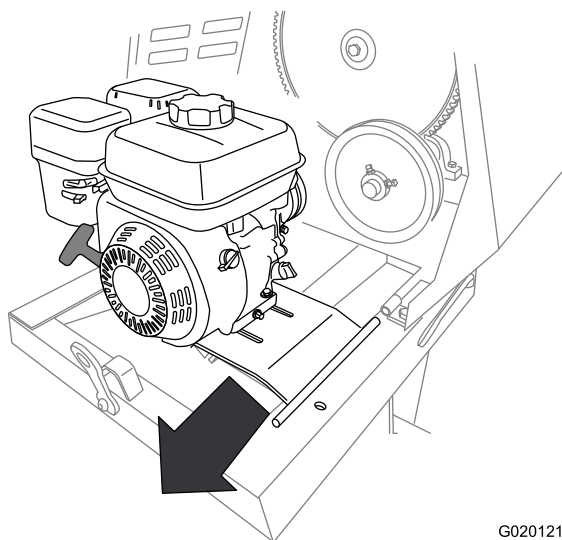

Figure 61
9. Slide the engine deck rearward and out from the forward hinge bracket (Figure 61).
10. Remove the engine and engine deck from the machine (Figure 61).
2. Align the pivot on the engine deck with the forward hinge bracket (Figure 61).
3. Slide the engine deck forward and the pivot into the forward hinge bracket (Figure 61).
4. Align the rear hinge bracket with the pivot on the engine-deck hinge (Figure 61).